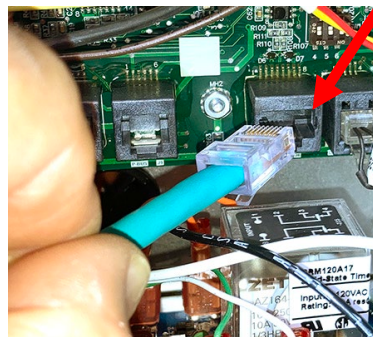

Figure 21
- Attach the RJ45 cable to the SIB board (see Figure 21).